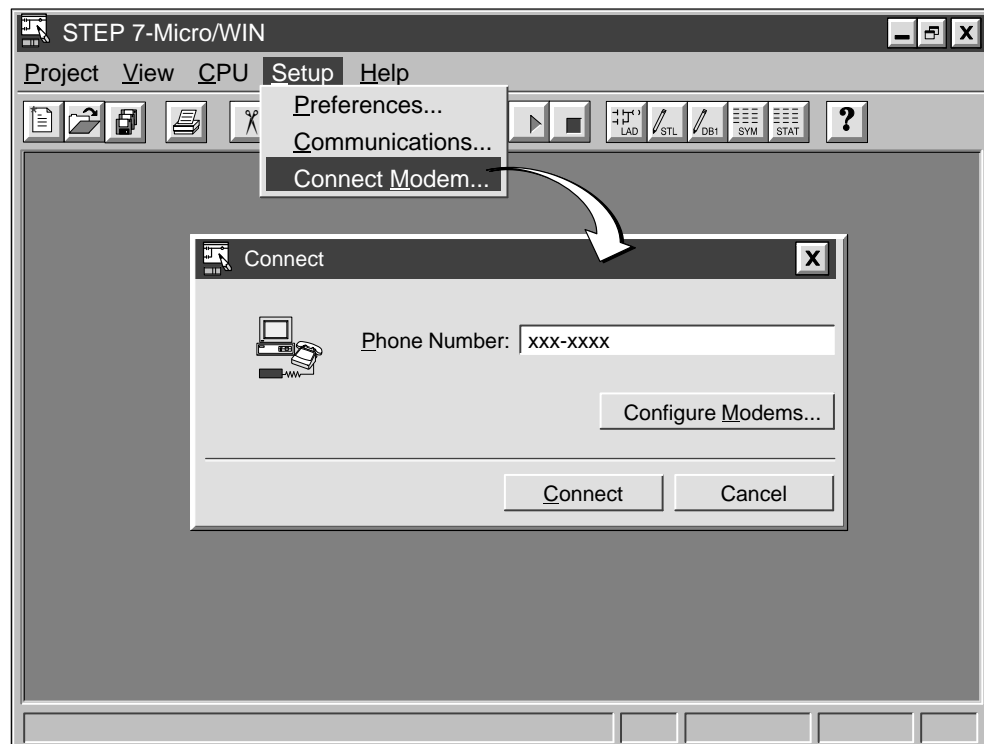

Figure 3-18 Connect Dialog Box
23. To connect your modem, select the menu command **Setup ► Connect Modem....** The Connect dialog box appears. See Figure 3-18.